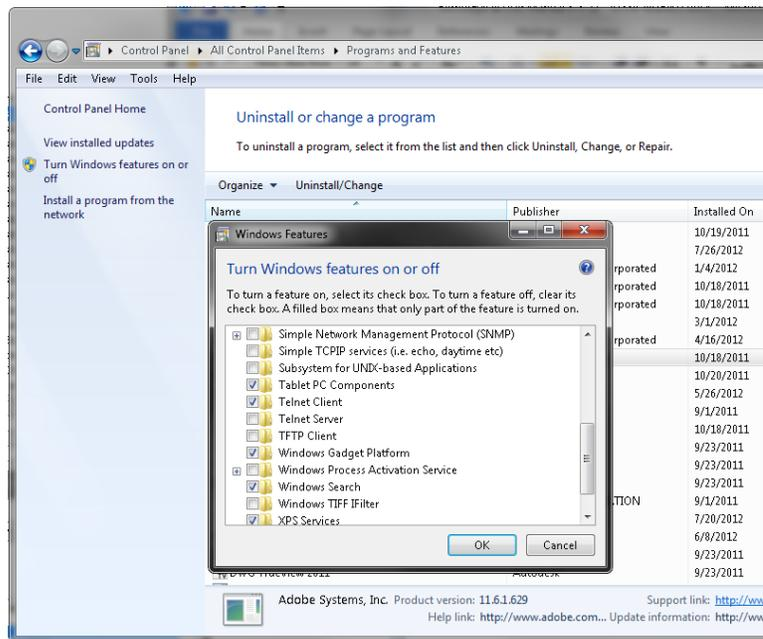

Figure 28: Enable Telnet Feature on Windows 7/Vista
4. On the left side column, click on “Turn Windows features on or off” (See Figure 28: Enable Telnet Feature on Windows 7/Vista). Now look for “Telnet Client” and click on the check box to enable. Then click on the “Ok” button and wait till feature is enabled.